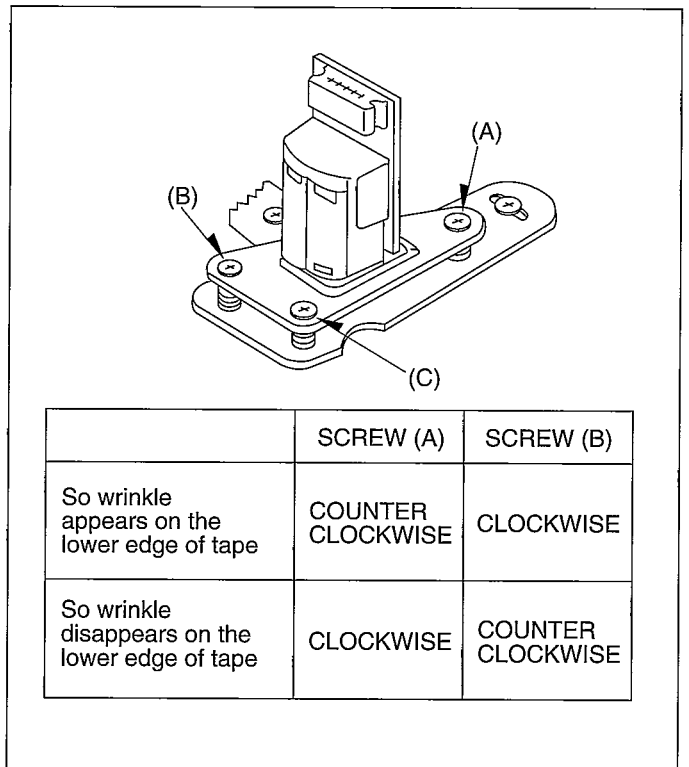

Fig. M11
- (1) Install A/C Head on the Mechanism Chassis by one screw.
- (2) Playback the Alignment Tape.
- (3) Rotate the screw (A) or (B) until the wrinkle appears on the lower edge of tape at P4 Post.
- (4) Rotate the screw (A) or (B) until the wrinkle just disappears on the lower edge of tape at P4 Post.
- (5) Connect the oscilloscope to audio output terminal.
- (6) Rotate the screw (C) until audio signal is maximized.
- NOTE: 1. The relation between the rotation direction of screws (A) and (B) and the condition of wrinkle on the lower edge at P4 Post as shown in Fig. M11.